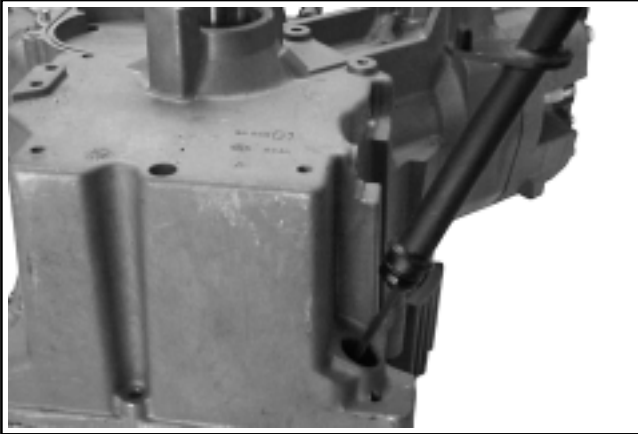

Figure 9-56. Removing Dipstick Tube Assembly.
4. Clean the crankcase area around the dipstick tube of all dirt and debris. Carefully pull upwards on the tube assembly to unseat and remove it. See Figure 9-56.